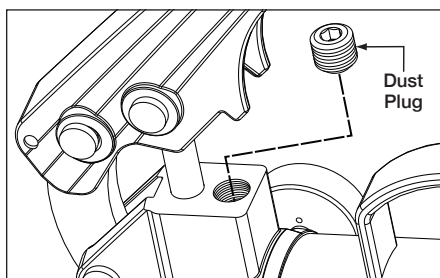

Figure 12, Relief Valve
- On model 15081, the relief valve is located on the top surface of the pump head. See Figure 12.